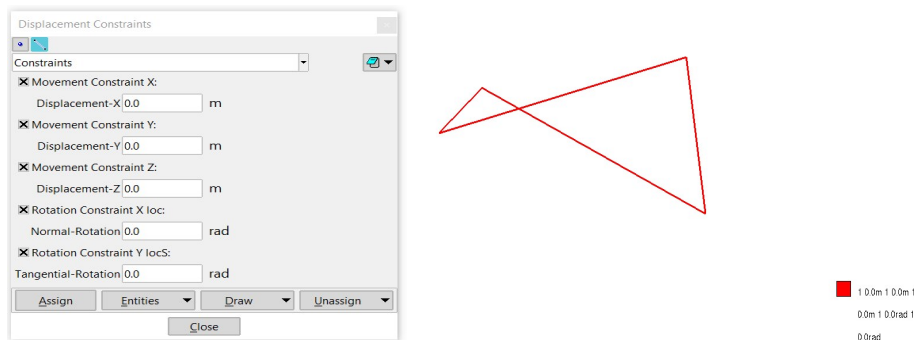

Figure 1.2 – Boundary Conditions
- Displacements Constraints / Linear Constraints: For represent the clamped constraint the Movement in X Y and Z and the rotation in X and Y direction is prevented along the boundary of the plate (Figure 1.2).